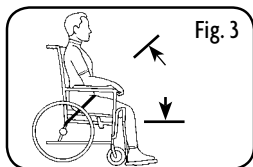

Fig. 4 Mobile Chair Belt/Hook and Loop Alarm Belt/EZ Clean Alarm Belt rear attachment
2. Choose a site to attach straps at a juncture of the frame behind and under the seat, out of the patient's reach. Make sure straps cannot slide in any direction, or change angle or position (fig. 4).